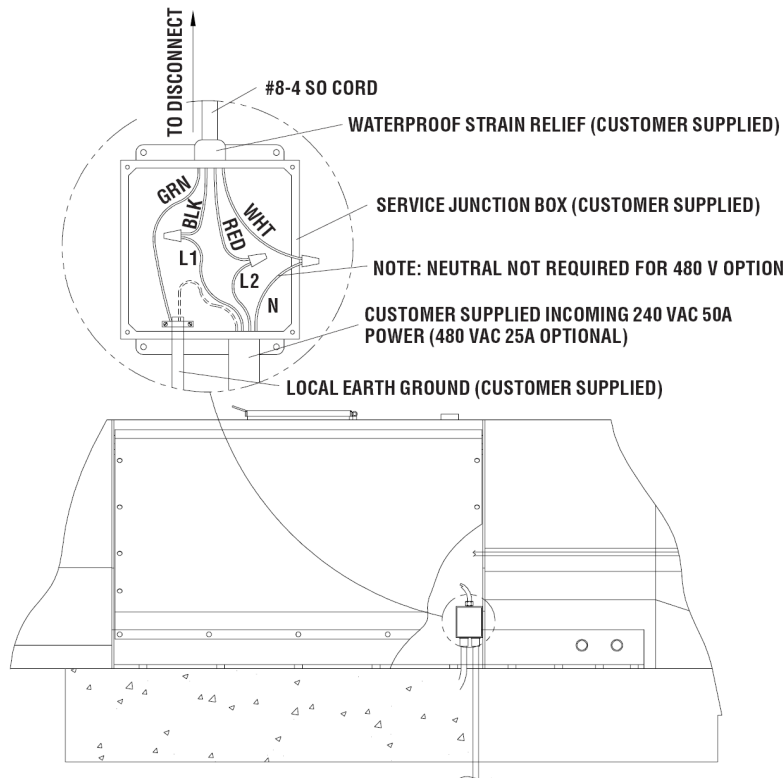

Figure 14
4) Connect the incoming power to the disconnect (Figure 14).